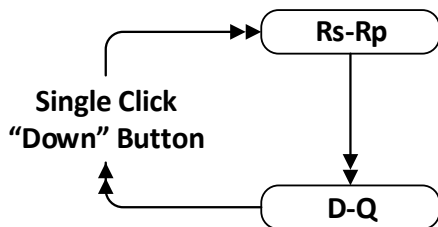

Figure 3-5: Switch Secondary Parameter Setting by Single Clicking the "Down" Button
- Single click the "Down" button to switch secondary parameter setting as Figure 3-5 shows.